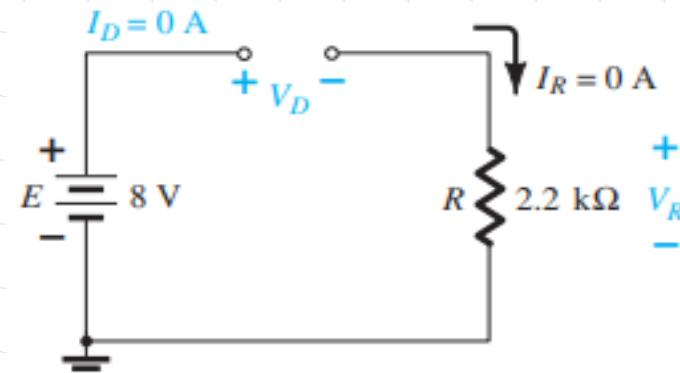

FIG. 2.14
Solution: Removing the diode, we find that the direction of I is opposite to the arrow in the diode symbol and the diode equivalent is the open circuit. The result is the network of Fig. 2.14 , where $I_D = 0 \text{ A}$ due to the **open circuit**. Since $V_R = I_R R$, we have $V_R = (0)R = 0 \text{ V}$. Applying Kirchhoff's voltage law around the closed loop yields